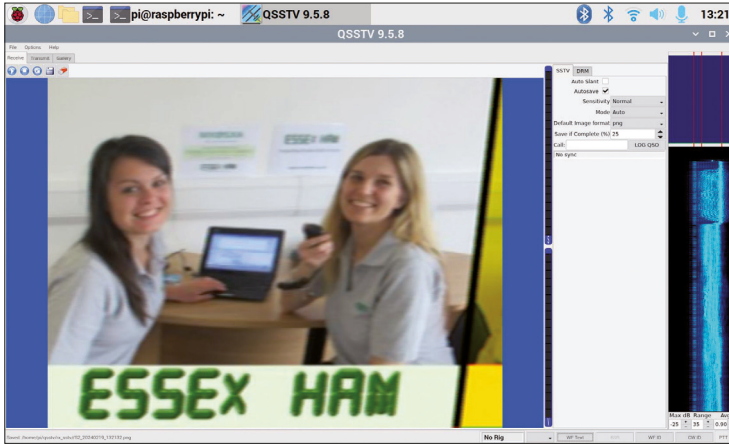

Figure 17.49: Image built on QSSTV screen.
- You should see the image received on the QSSTV screen as shown in Figure 17.49. The file played in this example was named: **Essex Ham 01 Scottie2 MP3**, it lasts for 1 minute 12 seconds.